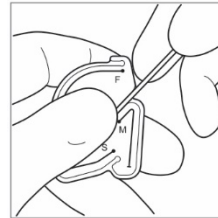
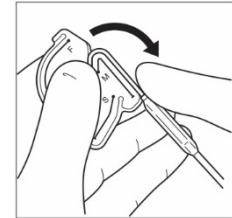

Figure 10 – Start Maxillary Bend
Figure 11 – Finish Maxillary Bend
- **Maxillary Bending with Bending Tool:** Before shaping the maxillary bend, the device should be close to straight as shown for a Sphenoid Bend. With the Bending Tool in one hand, position the ball tip into the ball holder in the bending tool (Figure 10). Place a finger at about the 2 cm mark on the suction tip and use this finger to form the Maxillary Bend (Figure 11).